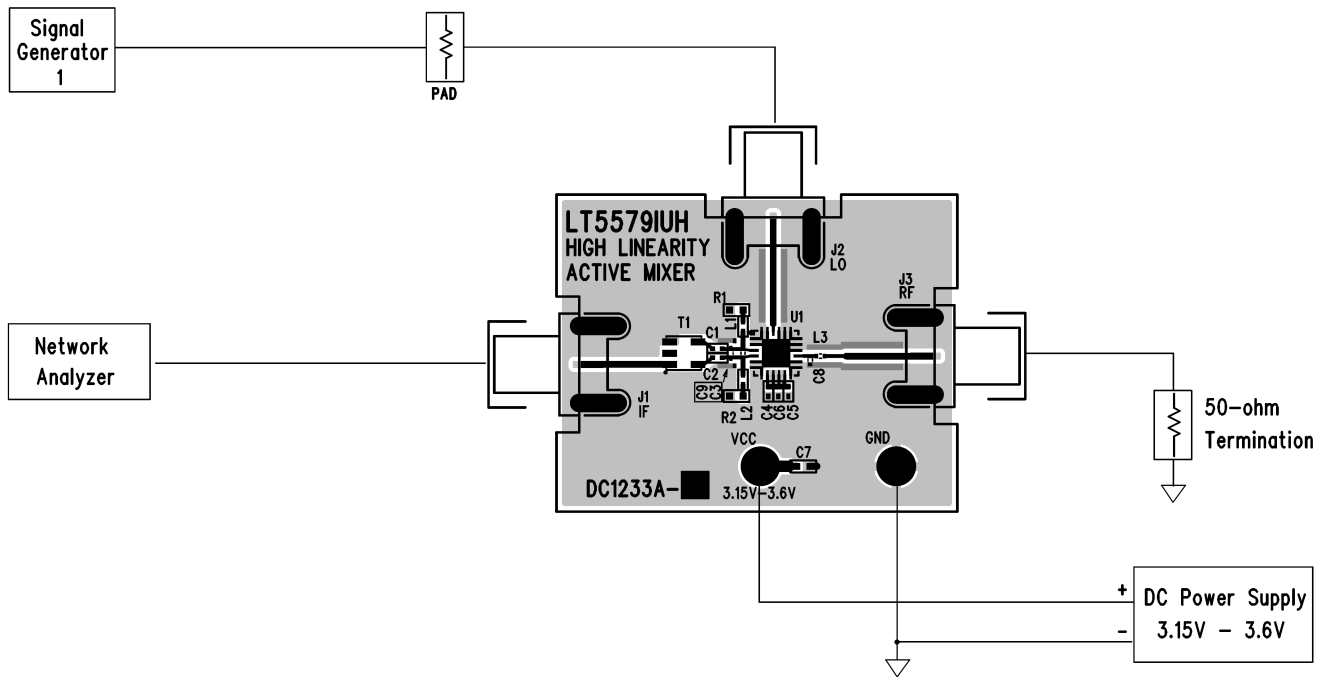
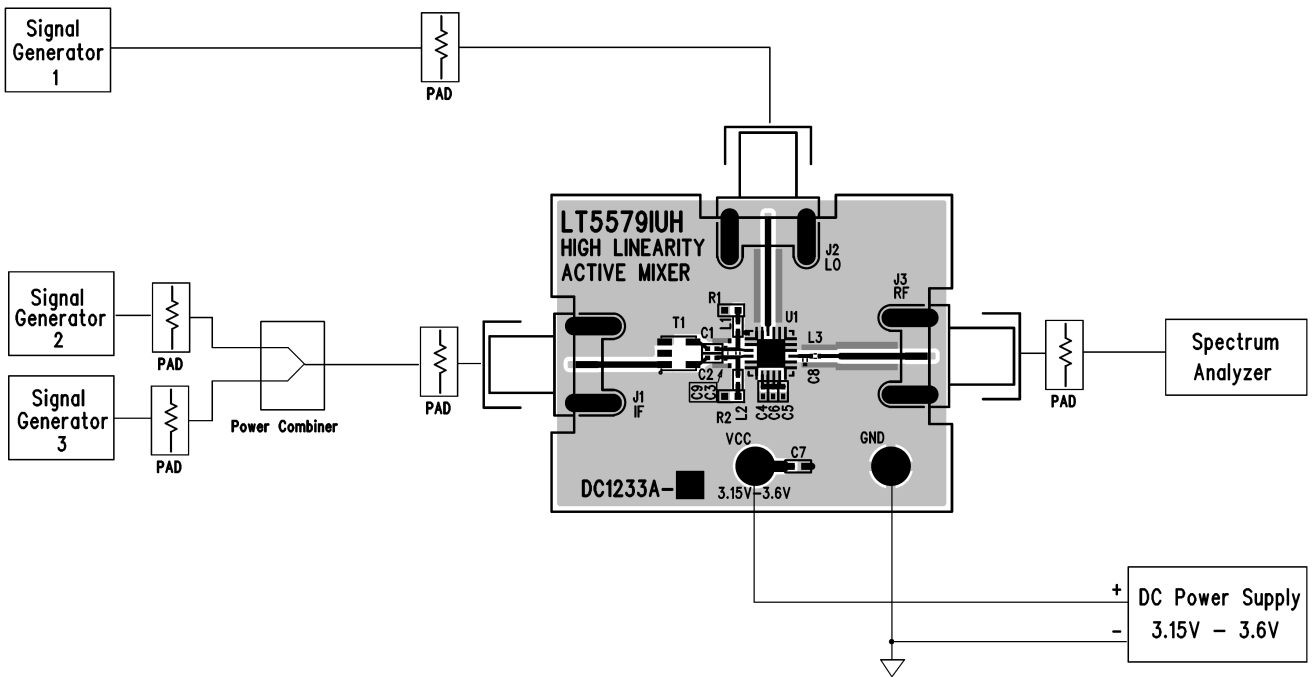

Figure 1. Proper Equipment Setup for Return Loss Measurements
Figure 2. Proper Equipment Setup for RF Performance Measurements
Demonstration circuit 1233A-x is easy to set up to evaluate the performance of the LT5579. Refer to Figure 1 and Figure 2 for proper measurement equipment connections and follow the procedure below:
3. Connect all test equipment as shown in Figure 1.
1. Connect all test equipment as shown in Figure 2.